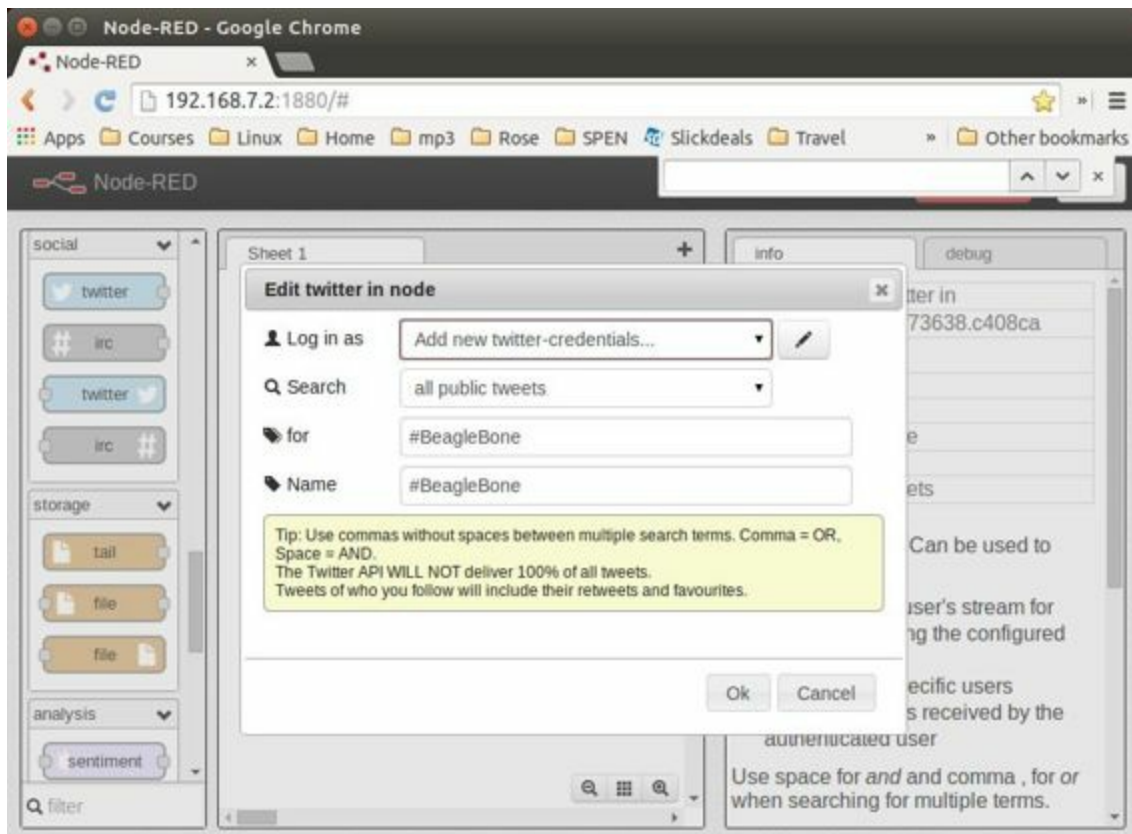

Figure 6-12. Node-RED adding the #BeagleBone hashtag
7. When you're back to Node-RED, click the Add button, add your Twitter credentials, enter the hashtags to respond to (Figure 6-12), and then click the Ok button.